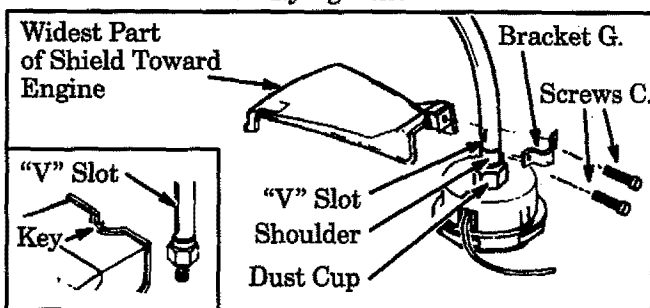

Figure 8
Failure to install shield in the position shown in Figure 8 can result in serious injury to the operator. The length of the shield must be aligned with the length of the tube. Direct widest part of shield toward engine.
- Match key (raised area) on the shield with the "V" slot on the tube. Figure 8.
- Rest bottom of shield on top of shoulder (not on the dust cup) of tube. Figure 8.
- Install bracket "G." and screws "C." as shown in Figure 8.